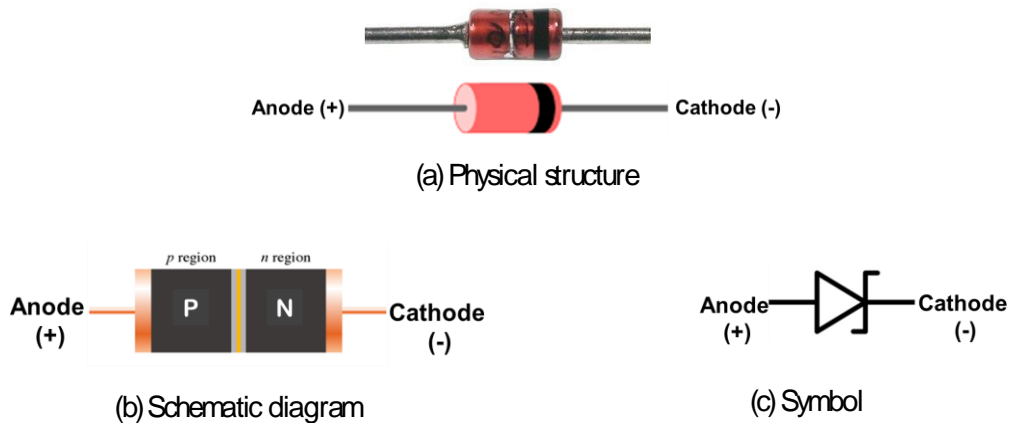

Figure 2.13 Physical structure and symbol of zener diode
- The physical structure and symbol of zener diode is shown in Figure 2.13.